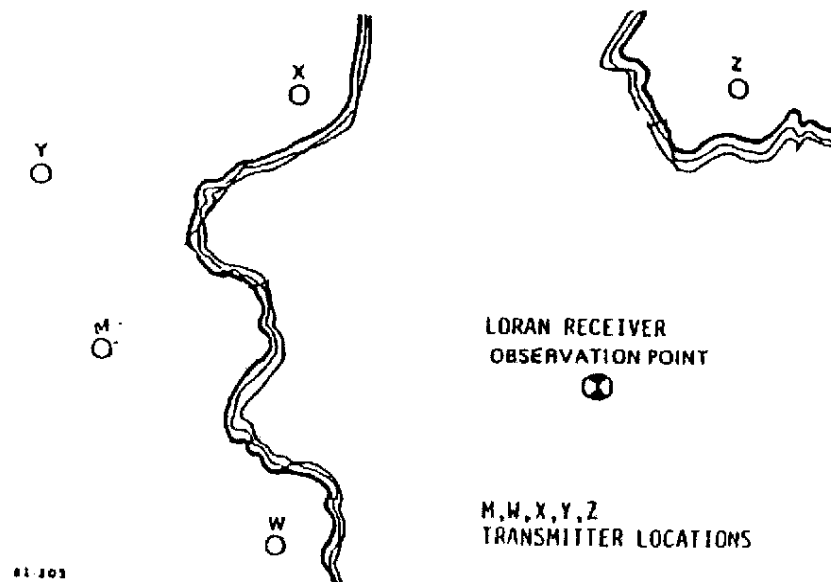

Figure 1. Typical Loran C Chain Configuration
Generally, the Loran C receiver must be programmed to recognize and identify the Master station GR1 of the Loran C chain. Once programmed, the receiver can measure the TD's and present them on a digital readout display. Figure 1 illustrates a typical Loran C chain configuration. The Master (M) and Secondaries W, X, Y and Z are separated by several hundred miles.